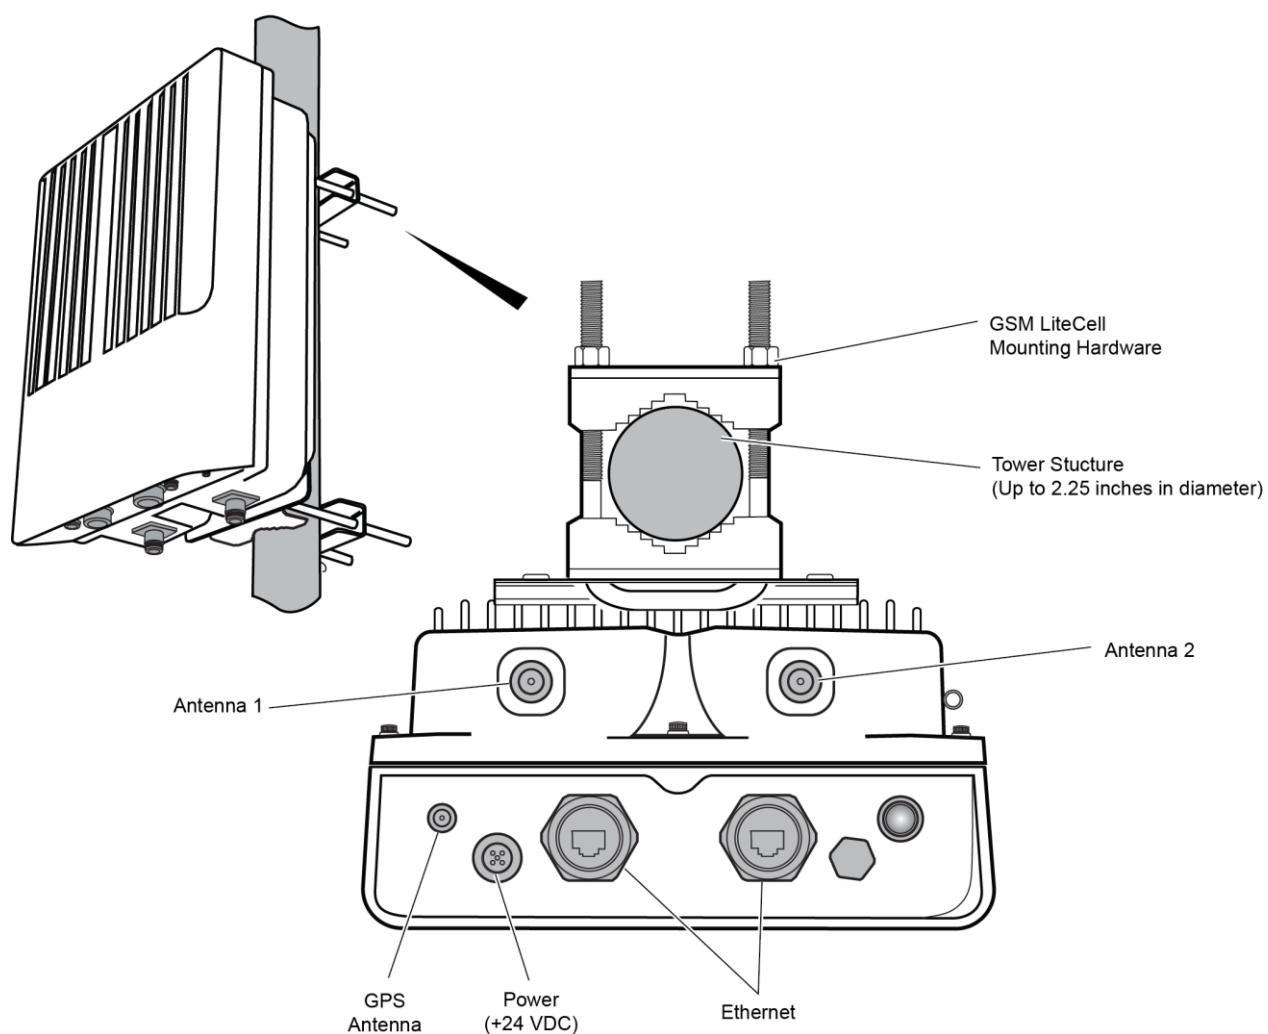

Figure 11. GSM LiteCell Installation
2. On the ground, attach the two LiteCell mounting clamps and U-bolts into the mounting brackets, as shown in Figure 11. Secure the assembly with the flange screws.